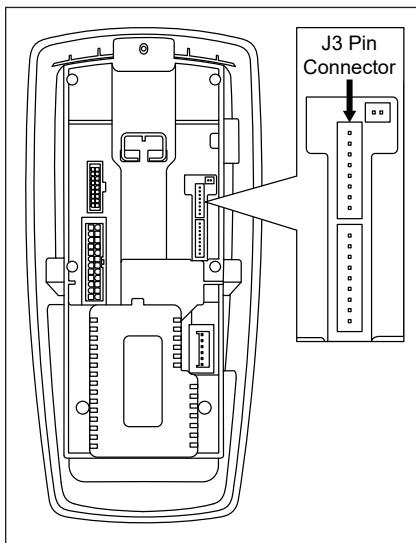

Figure 99 - Disconnect J3 Pin Connector
- 10** Disconnect the wire harness from the J3 pin connector on the back of the control assembly (see Figure 99 on the following page).
- 19** Slide insulation down and over Discharge Temperature Sensor. Secure insulation around sensor with two (2) cable ties placed above and below sensor.
- 20** Slide insulation up and over Suction Temperature Sensor. Secure insulation around sensor with two (2) cable ties placed above and below sensor.
- 21** Slide Ambient Temperature Sensor through hole in bracket and gland nut. Confirm sensor protrudes approximately three (3) inches, then hand tighten glad nut to secure sensor cable.
- 25** Connect the new wire harness to the J3 pin connector on the back of the control assembly (see Figure 99).